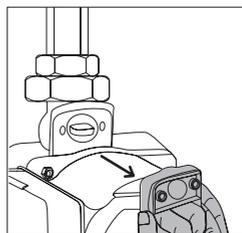

Fig. 18
5. Retire o fluxostato [Fig. 18].